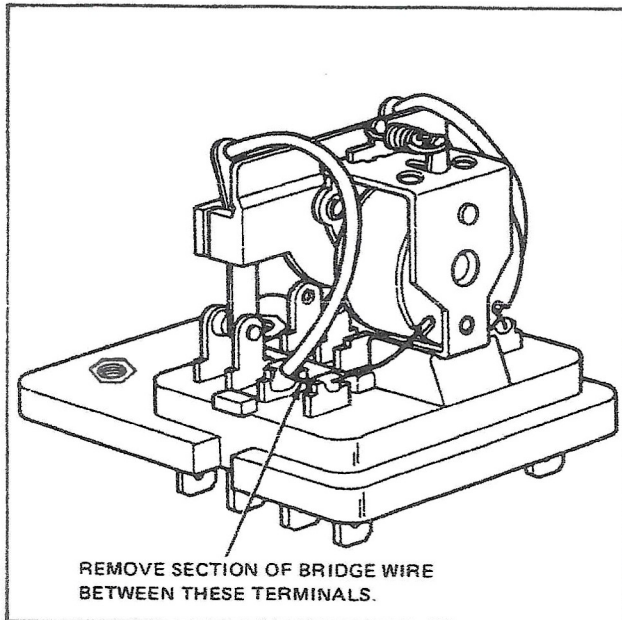

Fig. 20 — Article No. 117
2. Remove the bridge wire connecting the two (2) ground terminals, (see Fig. 20) and replace the cover.